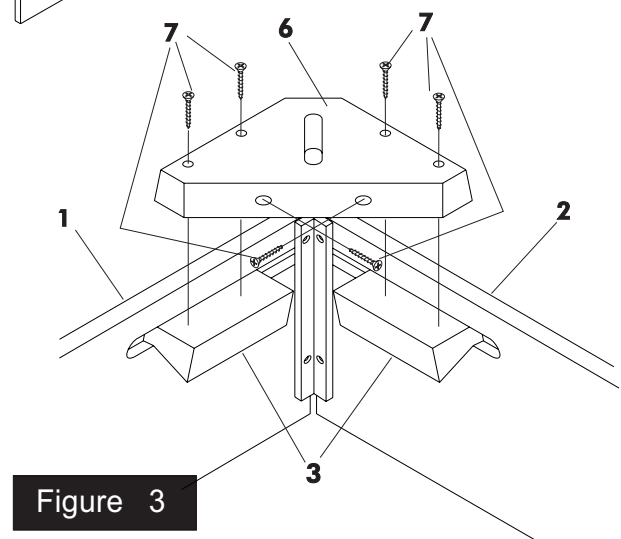

Figure 3
3. Set a Leg Block #6 in the corner of cabinet assembly on top of Dove Blocks #3. See Figure 3. Attach Leg Block #6 to side Cabinet Panel #2 and End Cabinet Panel #1 using two screws #7
4. Attach Leg Block #6 to Dove Blocks #3 using four screws #7. See Figure 3.